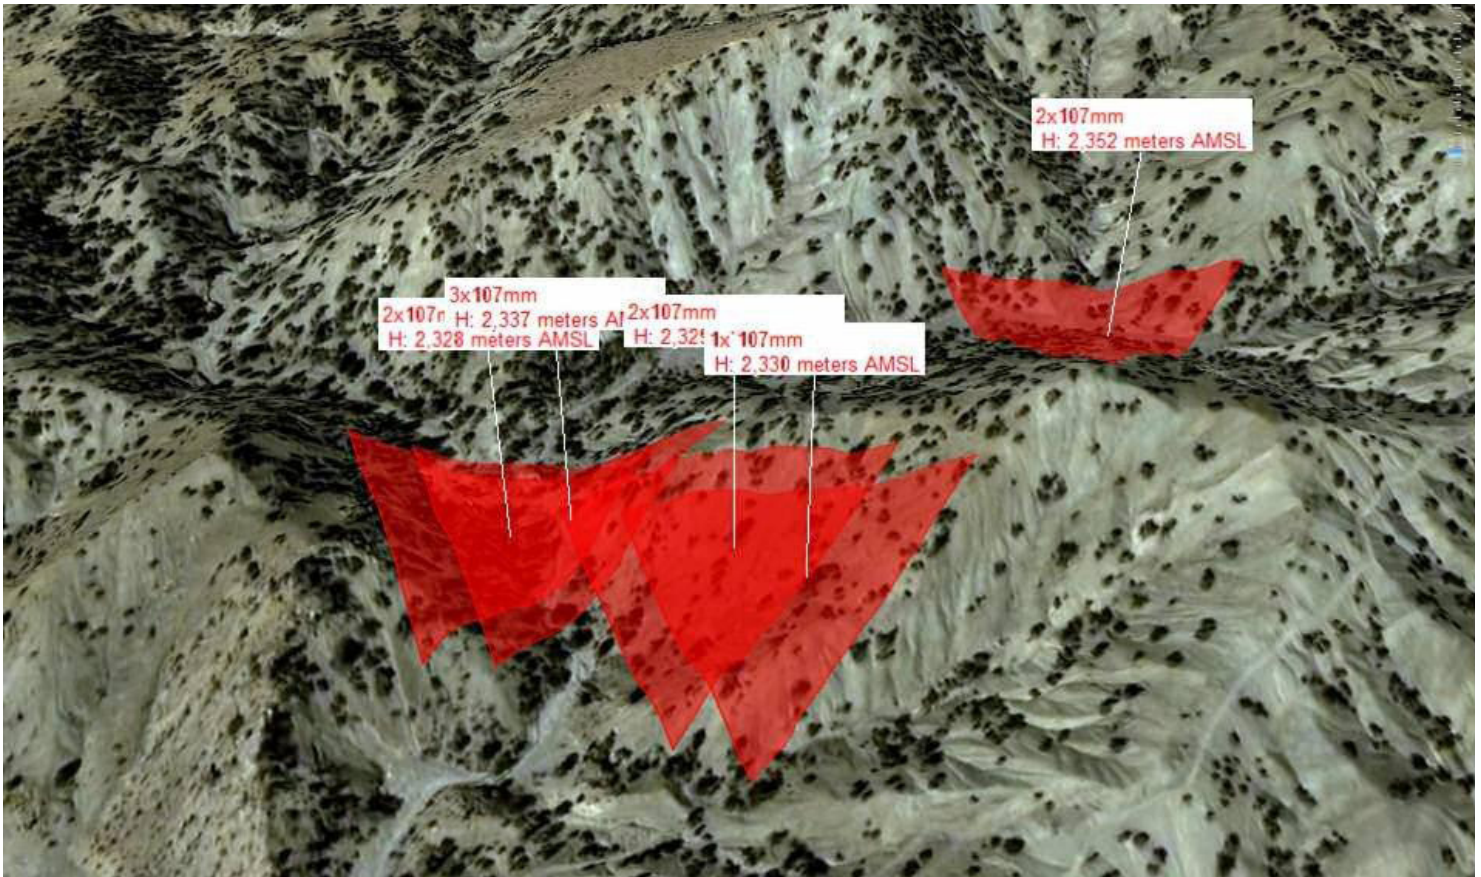

Figure 6. Refinement of target location by overlapping the average of the Firefinder's target location error. (Illustration courtesy of CPT Kevin A. Chesnut)
**Your Collection Plan.** When refining the target location we considered the average of the FOB/COPs Firefinder's target location error with the combination of terrain analysis. Taking the average of the radar's TLE we began to plot historic IDF POO acquisitions which refined areas/military grid reference service grids (see Figure 6 for an example). This refinement created targets for registration/calibration missions for our conventional IDF weapon systems making counter-fire on historic POO sites more effective. When refining the target we conducted terrain